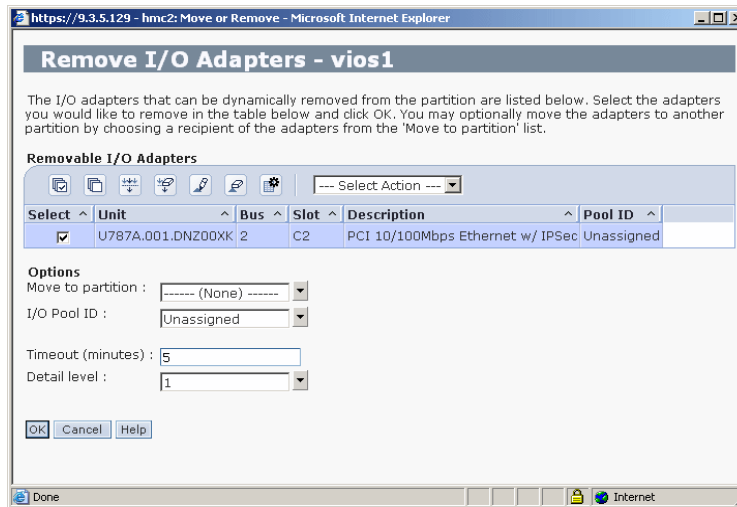

Figure 6-22 Select physical adapter to be removed
2. Select the adapter you want to delete as shown in Figure 6-22.